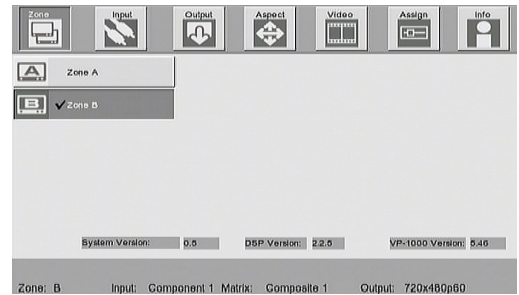

Figure 53
4. To return menu control back to Zone A press the ▲UP and then press the SELECT push-button. A ✓ check mark will appear to the left of the ZONE A Title Name indicating any changes made in the Menus will affect only Zone B. Refer to figure 53.